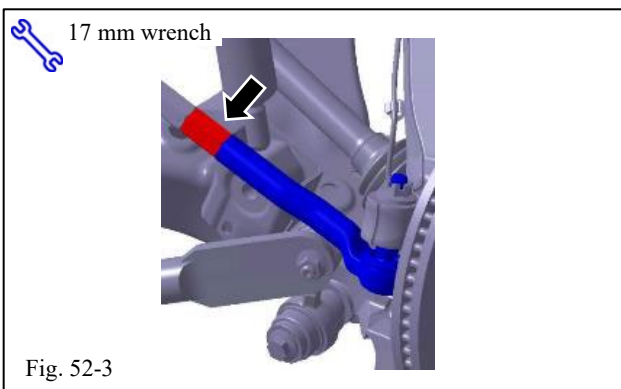

Fig. 52-3
- (1) Remove the clip from the steering rack boot.
- (2) Loosen the TRD outer tie rod sleeve (Fig. 52-3).
- (3) Turn both steering rack ends the same amount to adjust the toe.
- (4) Hold the TRD inner tie rod sleeve and tighten the TRD outer tie rod sleeve.